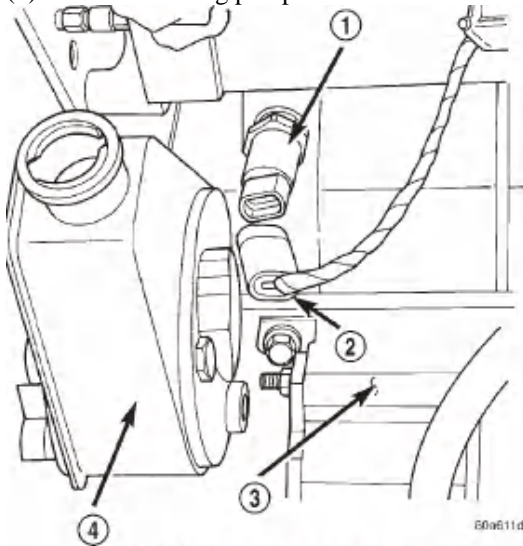
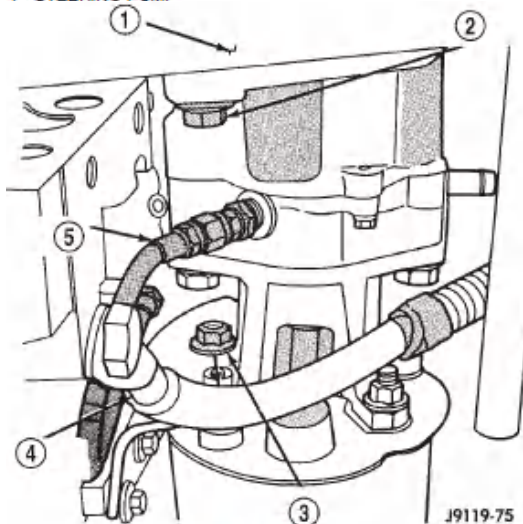

Fig. 5 Oil Pressure Sending Unit
Fig. 6 Oil
- (1) Remove and cap steering pump hoses and vacuum pump vacuum line.
- (2) Remove the oil pressure sender unit from engine block and plug hole in the block (Fig.5).
- (3) Remove the serpentine belt.
- (4) Remove and cap the oil feed line from the bottom of the vacuum pump (Fig. 6).
- (5) Remove the lower bolt that attaches the vacuum / steering pump assembly to the engine block. Remove the nut from the steering pump attaching bracket (Fig. 6).